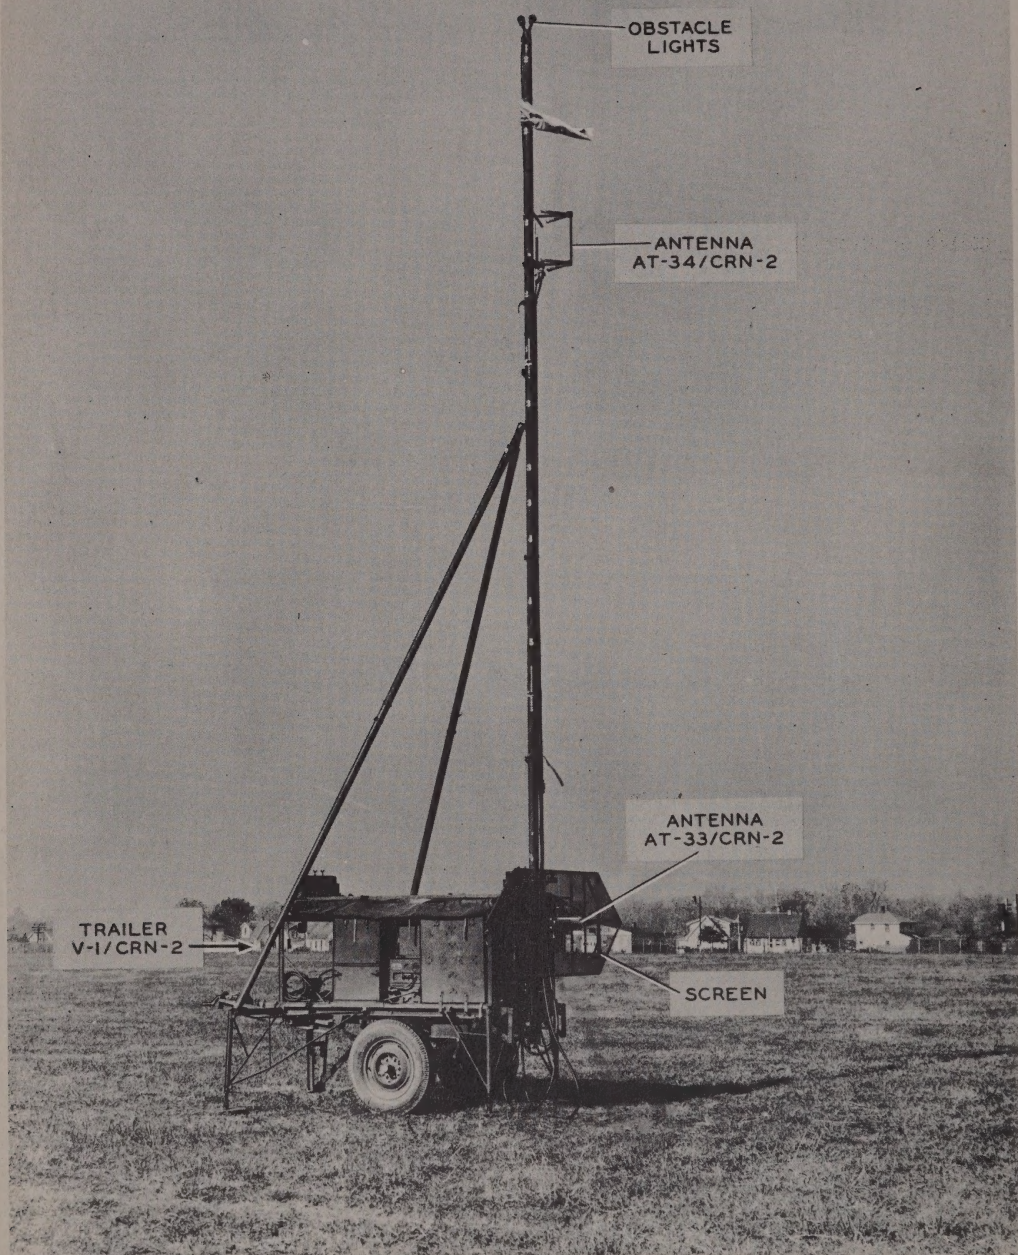

Figure 1-1. Radio Set AN/CRN-2—Set Up For Operation
a. PURPOSE. — Radio Set AN/CRN-2, part of the Army Air Forces Instrument Approach System, formerly known as Instrument-Landing System SCS-51-(*), is essentially a radio transmitter and a radio-frequency radiating system. It provides vertical guidance to an aircraft coming in for a landing on a localizer course. The radio set, contained in Trailer V-1/CRN-2, is entirely portable. (See fig. 1-1.) It uses Radio Set SCR-610-A, a major component, for intercommunication between associated equipments of the instrument-approach system.